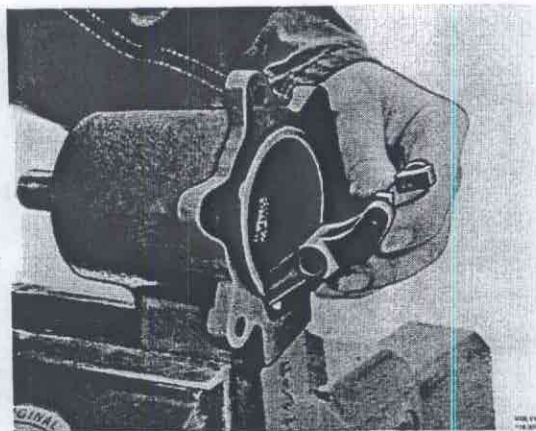

Fig. 43-180. Fitting selector fork
6. Secure the control mechanism in a vice. Fig. 43-180.